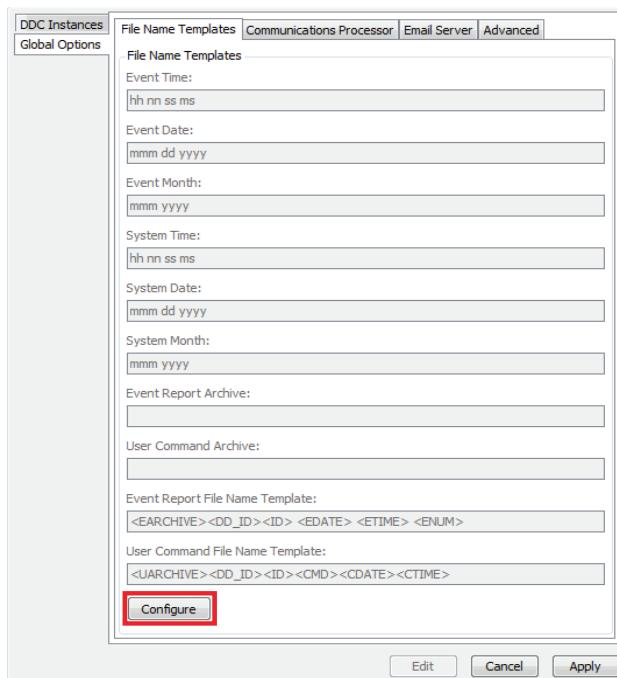

Figure 24 TEAM Global Options Window
- Step 3. Select the **Configure** button, highlighted in *Figure 24*, under the **File Name Templates** tab. This opens the **Global Options Wizard**.